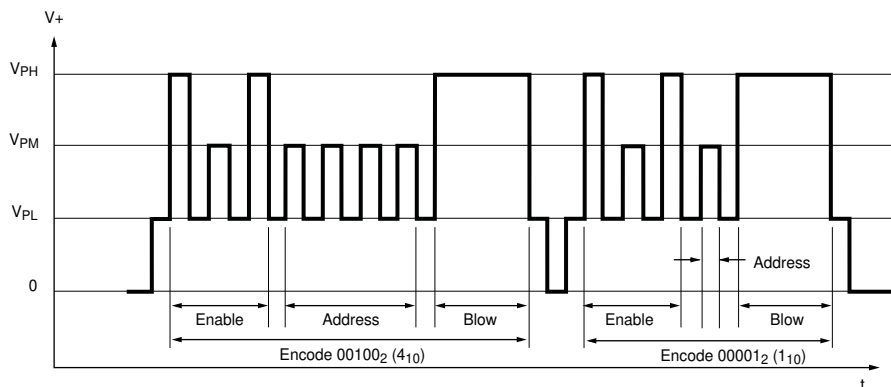

Figure 3. Pulse sequence to permanently encode calibration value 5 (101 binary, or bitfield address 3 and bitfield address 1).
When permanently setting values, the bitfields must be set individually, and  $5_{10}$  must be programmed as binary 101. Bit 3 is set to 1 ( $000100_2$ , which is  $4_{10}$ ), then bit 1 is set to 1 ( $000001_2$ , which is  $1_{10}$ ). Bit 2 is ignored, and so remains 0. Two pulse sequences for permanently setting the calibration value 5 are shown in figure 3. The final  $V_{PH}$  pulse is maintained for a longer period, enough to blow the corresponding bitfield-level fuse.
**Address Selection.** After addressing mode is enabled, the target bitfield address, is indicated by a series of  $V_{PM}$  pulses, as shown in figure 3. When provisionally trying a value, this sequence is followed by a short  $V_{PH}$  pulse, which serves to delimit the address and set the corresponding bitfield. When permanently setting a bitfield, the  $V_{PH}$  pulse is continued for a longer period of time, sufficient to not only set the bitfield to 1, but also to blow the bitfield fuse.